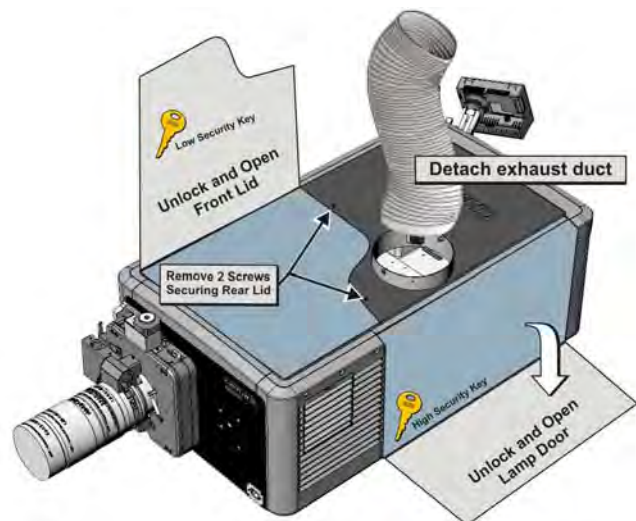

Figure 5-11 Rear Lid
6. Remove the two screws securing the rear lid to the chassis. (**Figure 5-11**)